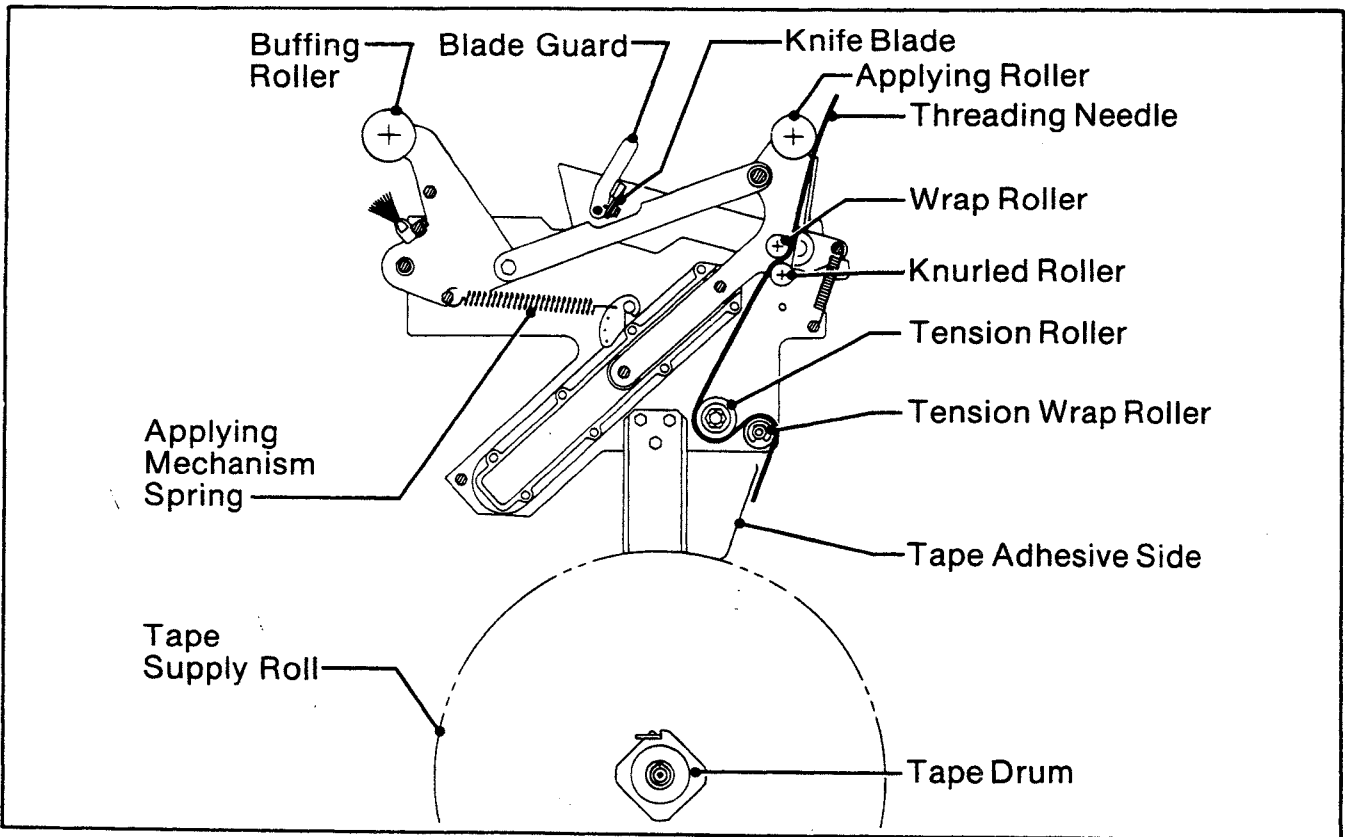
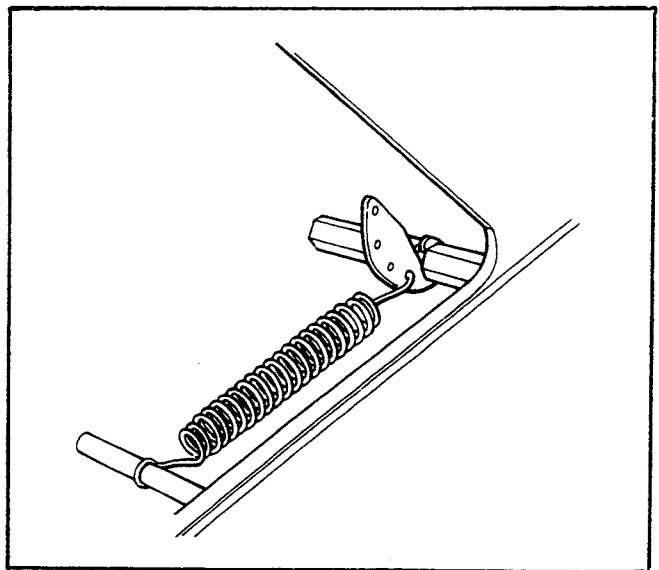

Figure 3A - Tape Threading Diagram - Bottom Taping Head - Left Side View
Figure 10
1. BOTH THE TOP AND BOTTOM TAPING HEADS UTILIZE EXTREMELY SHARP KNIFE BLADES ON THE ORANGE CUTTER LEVER ASSEMBLY AND WHICH ARE LOCATED UNDER THE BLADE GUARD WHICH HAS THE "WARNING - SHARP KNIFE" LABEL. BEFORE WORKING WITH THE TAPING HEADS OR ATTEMPTING TO LOAD THE TAPE, REFER TO FIGURE 3A AND IDENTIFY THE BLADE LOCATION. KEEP HANDS OUT OF THESE AREAS EXCEPT AS NECESSARY TO SERVICE THE TAPING HEADS.
Tape Loading - Bottom Taping Head Refer to Figure 3A
The applying mechanism spring, shown in Figure 3A, controls applying and buffing roller pressure on the box and returns the mechanism to the reset position. The spring pressure is pre-set, as shown in Figure 10, for normal operation but is adjustable.